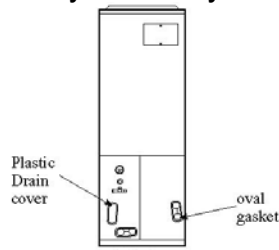

Fig.6-5
- 2) Remove J-shape metal bracket holding coil pan in place. Slide out the "A" coil pan assembly from the air handler cavity with horizontal drain pan on the right side. Remove oval gasket from horizontal pan drain and also remove the plastic drain cover from the lower left access panel. Fig. 6-5